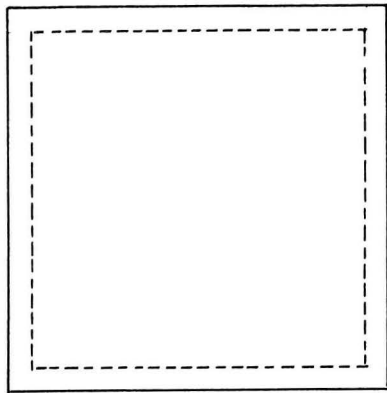
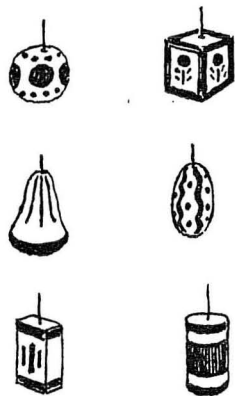

Fig 8 Square of Cheesecloth Cut 6x6 and Hemmed to Size  $5\frac{1}{4} \times 5\frac{1}{4}$
Fig 9 Beads Modelled from Permadello and Decorated with Opaque Water Color and Varnished
interesting to make and attractive to see. One yard of cheese-cloth cut into six-inch squares will make thirty-six covers. The children are to turn quarter-inch hems and sew them with either a running or a hemming stitch. (Fig. 8.) From clay or permodello they then model on a toothpick or hatpin four beads. When partly dry the beads should be removed from the pin to prevent adhesion. When thoroly dry the beads are replaced on the pin and painted with opaque water colors. Suggestions for designs are shown in Fig. 9. Use systems or arrangements of lines and dots rather than flower forms or other nature shapes. Several color schemes are suggested: (1) A white ground with lines and dots in one intense color; (2) black, white and one intense color; (3) a white ground and two complementary colors, as orange and blue, yellow and violet, etc.; (4) a ground of color with the design in black and white lines and dots.